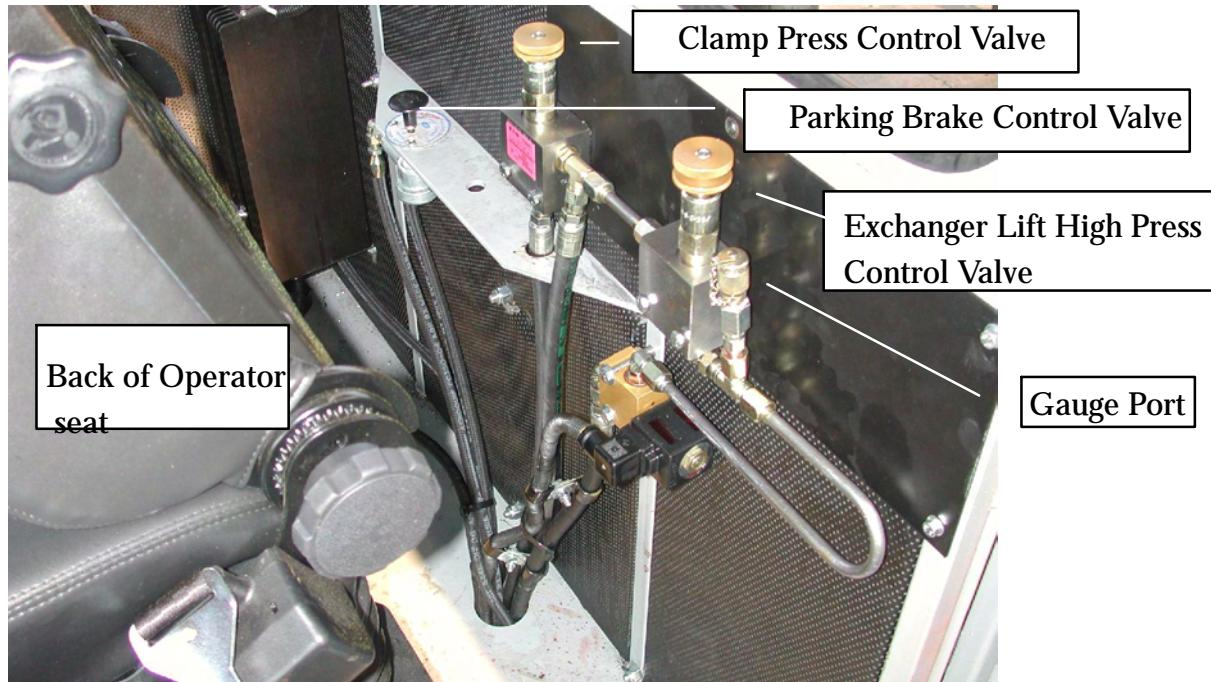

Figure 3–4: Parking/Spring brake, Clamp and Exchanger Lift Pressure controls
9. Move the INDEX BRAKE switch, which is located on the left console, to the OFF position. Refer to Figure 3–3.